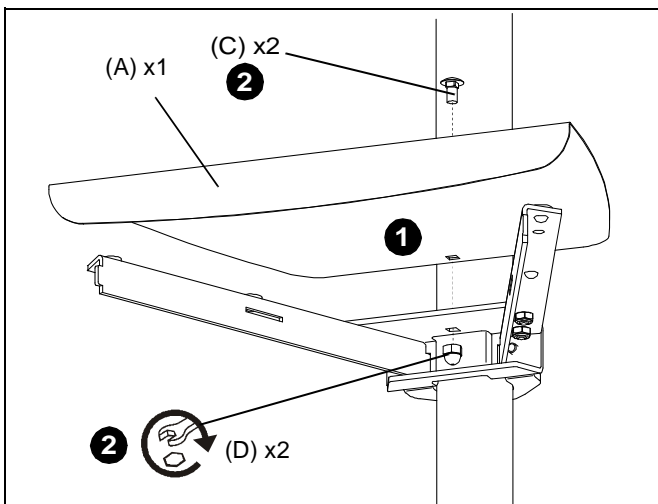

**Figure 2**
2. Align pole mount bracket (H) with shelf base (B2).
3. Secure pole mount bracket (H) to shelf base (B2) using two flat washers (G) and two button head cap screws (F). (See Figure 2)